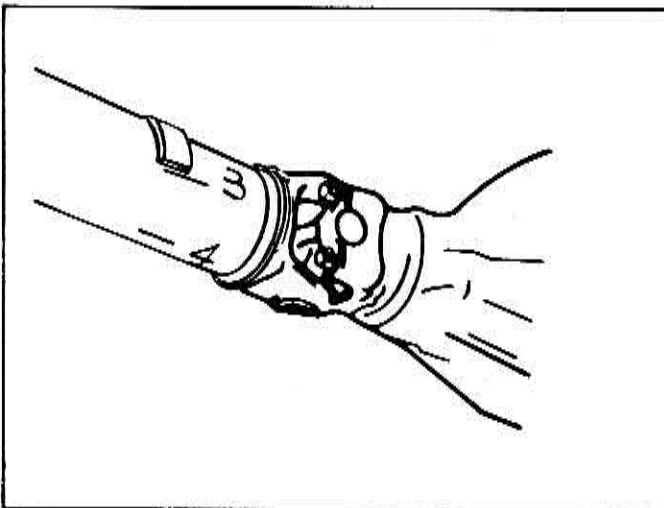
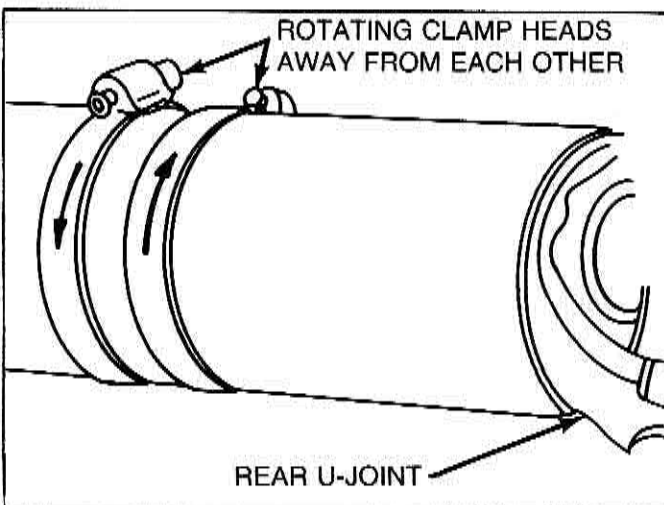
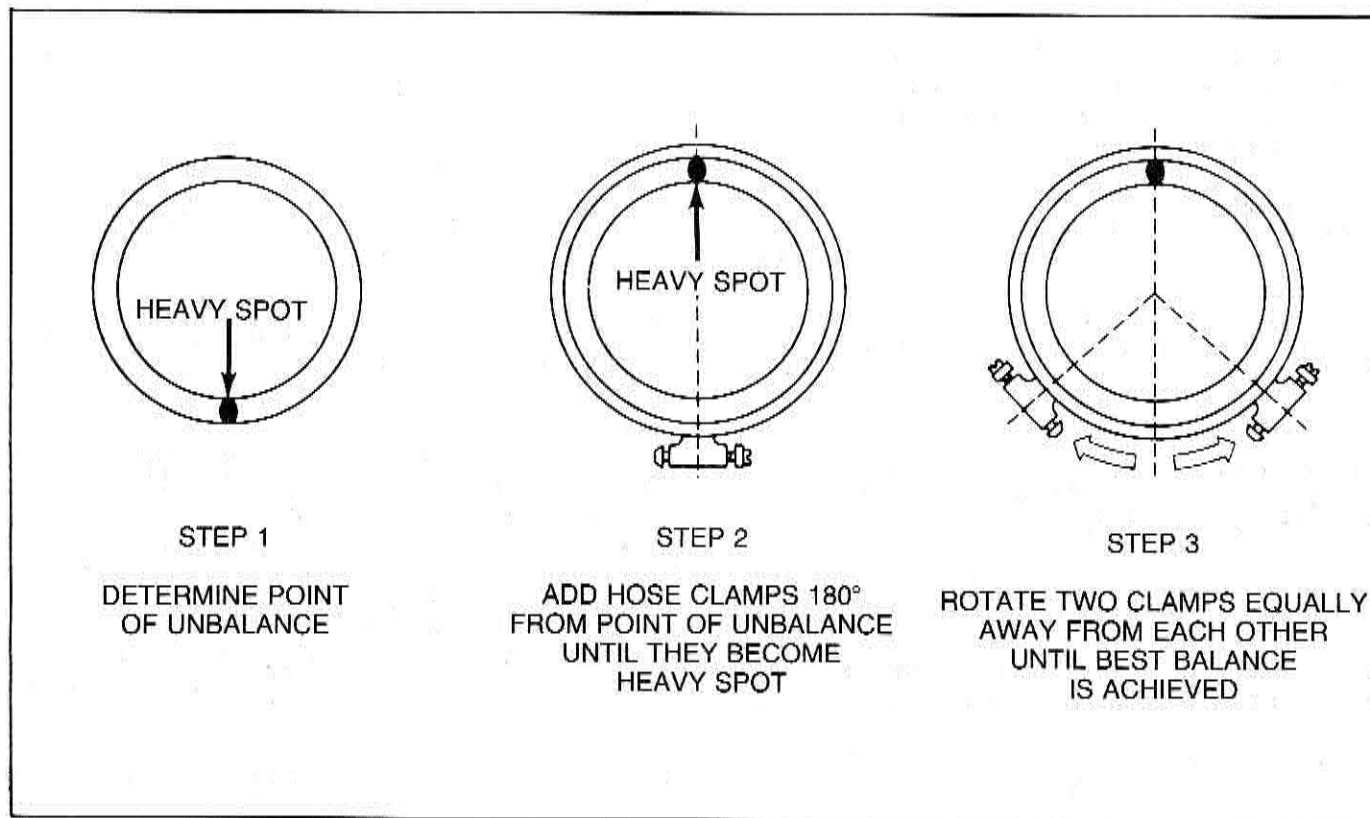

Figure 4-5 — Chalk Reference Marks on Propeller Shaft
Figure 4-6 — Balance Hose Clamps in Position
Figure 4-8 — Hose Clamp Positions to Balance Shaft
The following drive shaft balance procedure can be applied to a motor home and the procedure can be performed on the shop floor. **The wheels should be blocked and both axle shafts should be removed to prevent any possibility of spider gear spin-out during the balancing process.** The procedure requires the service technician to place four chalk marks (numbers 1 through 4). (See Figure 4-5 and Figure 4-6.)
Run the engine and drive shaft speed up to the point vibration is felt and note the speed showing on the speedometer. Also, note the "intensity" of the vibration. **STOP THE ENGINE AND DRIVE SHAFT.** Install a hose clamp and position the screw pointing toward one of the chalk reference marks. (See Figures 4-5 and 4-6.) Retest for vibration and note any gain or loss in vibration disturbance. A single hose clamp will *usually* increase or reduce the vehicle vibration by feel. The screw portion of the hose clamp is the weight being moved around the shaft.
2. Mark and number the drive shaft at four points 90 degrees apart around each shaft just forward of the balance weights. (See Figure 4-5.)
6. Install two hose clamps on the drive shaft as close to the rear of the drive shaft as possible, as shown in Figure 4-6. Position both screw clamp heads 180 degrees from the heavy point of the shaft as shown by the strobe light. (See Figure 4-8.) Tighten clamps.
8. Rotate two of the hose clamps equally away from each other toward the top (one each way from the original position as shown in Figure 4-8) in small amounts until you find the best possible balanced condition. In some cases, it may be necessary to use one clamp or possibly as many as three clamps to obtain a proper balance.